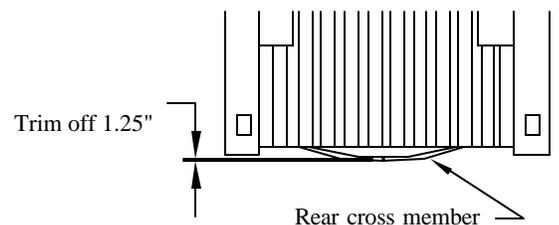

Figure 3 : Rear cross member.
- Step 3: **Trim** 1.25" from the pickup's rear cross member as shown in **Figure 3** .